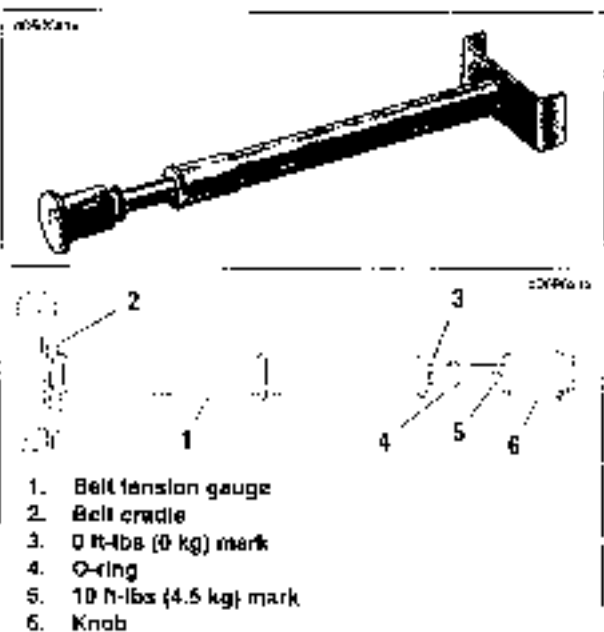

Figure 1-35. Belt Tension Gauge (Part No. HD-35381)
- See Figure 1-35. Obtain BELT TENSION GAUGE (HD-35381).